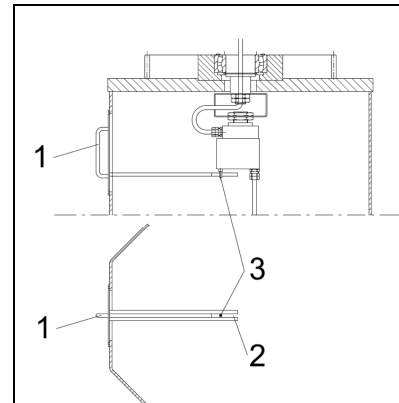

fig.41
3. Close the inspection window with the collector ring cover **1** making sure that the fork **2** welded on the cover inserts in the collector ring stop plug **3**. (fig.41)